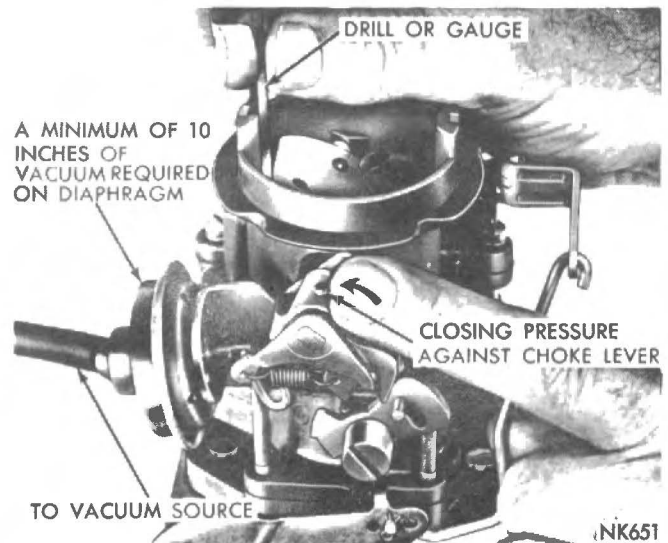

Fig. 15 - Vacuum Kick Adjustment (Typical).
(1) With the engine NOT running, open the throttle valve far enough to allow the choke valve to be moved to the closed position.
(2) Disconnect the vacuum hose from the diaphragm and connect the hose from the vacuum supply, as shown in Fig. 15. A minimum of 10 inches of mercury (HG) will be required.
(3) Insert the specified drill or gauge between the choke valve and the wall of the air horn. Refer to Fig. 15. Apply sufficient closing pressure on the choke shaft lever to provide the smallest choke valve opening possible without distortion of the diaphragm link. Note that the cylindrical stem of the diaphragm will extend as an internal spring is compressed. The spring must be fully compressed for proper measurement of the kick adjustment.
(4) An adjustment will be necessary if a slight drag is not obtained as the drill or gauge is being removed.
(7) Install the choke operating link and recheck the choke valve opening, using a gauge or drill (Fig. 15).